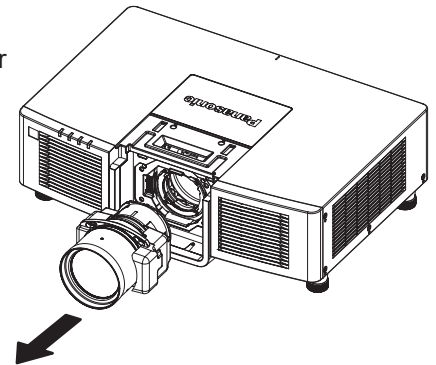

Fig. 5
4) Remove the projection lens. (Fig. 5)